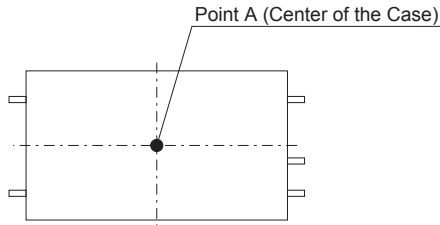

Fig.7.1 Temperature Measuring Point on the case (Top View)
■Please have sufficient ventilation to keep the temperature of point A in Fig.7.1 at Table7.1 or below. Please also make sure that the ambient temperature does not exceed 100°C.